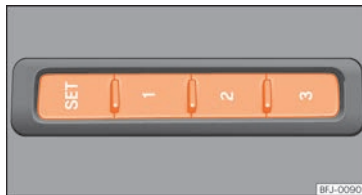

Fig. 112 On the outer side of the driver's seat: memory buttons.
- Press **SET** for longer than 1 second »» Fig. 112.